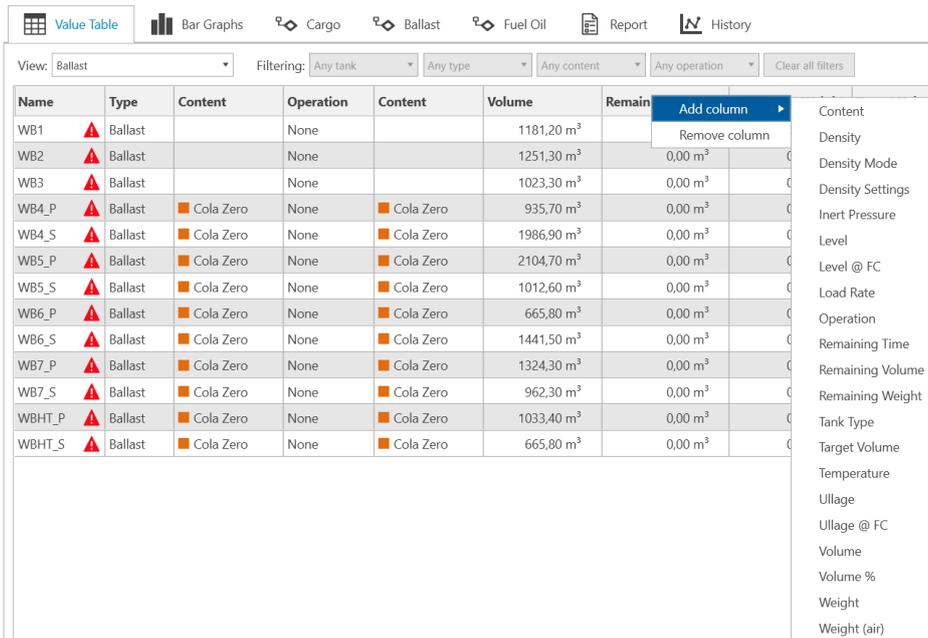

Figure 4-6: Adding/removing columns
- Adding/removing columns: By right-clicking a column header (See Figure 4-6).